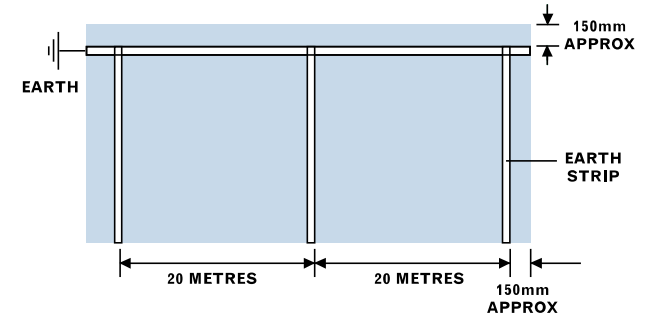

Figure 7.1 Earthing strip layout
7.5.1 Polyflor Static Dissipative (SD) range, OHMega EC and Polyflor EC
- ▶ The earth strip is laid 150mm from one side of the room, in the same direction as the vinyl sheets are to be laid. This strip is connected to a known earth (Figure 7.1).